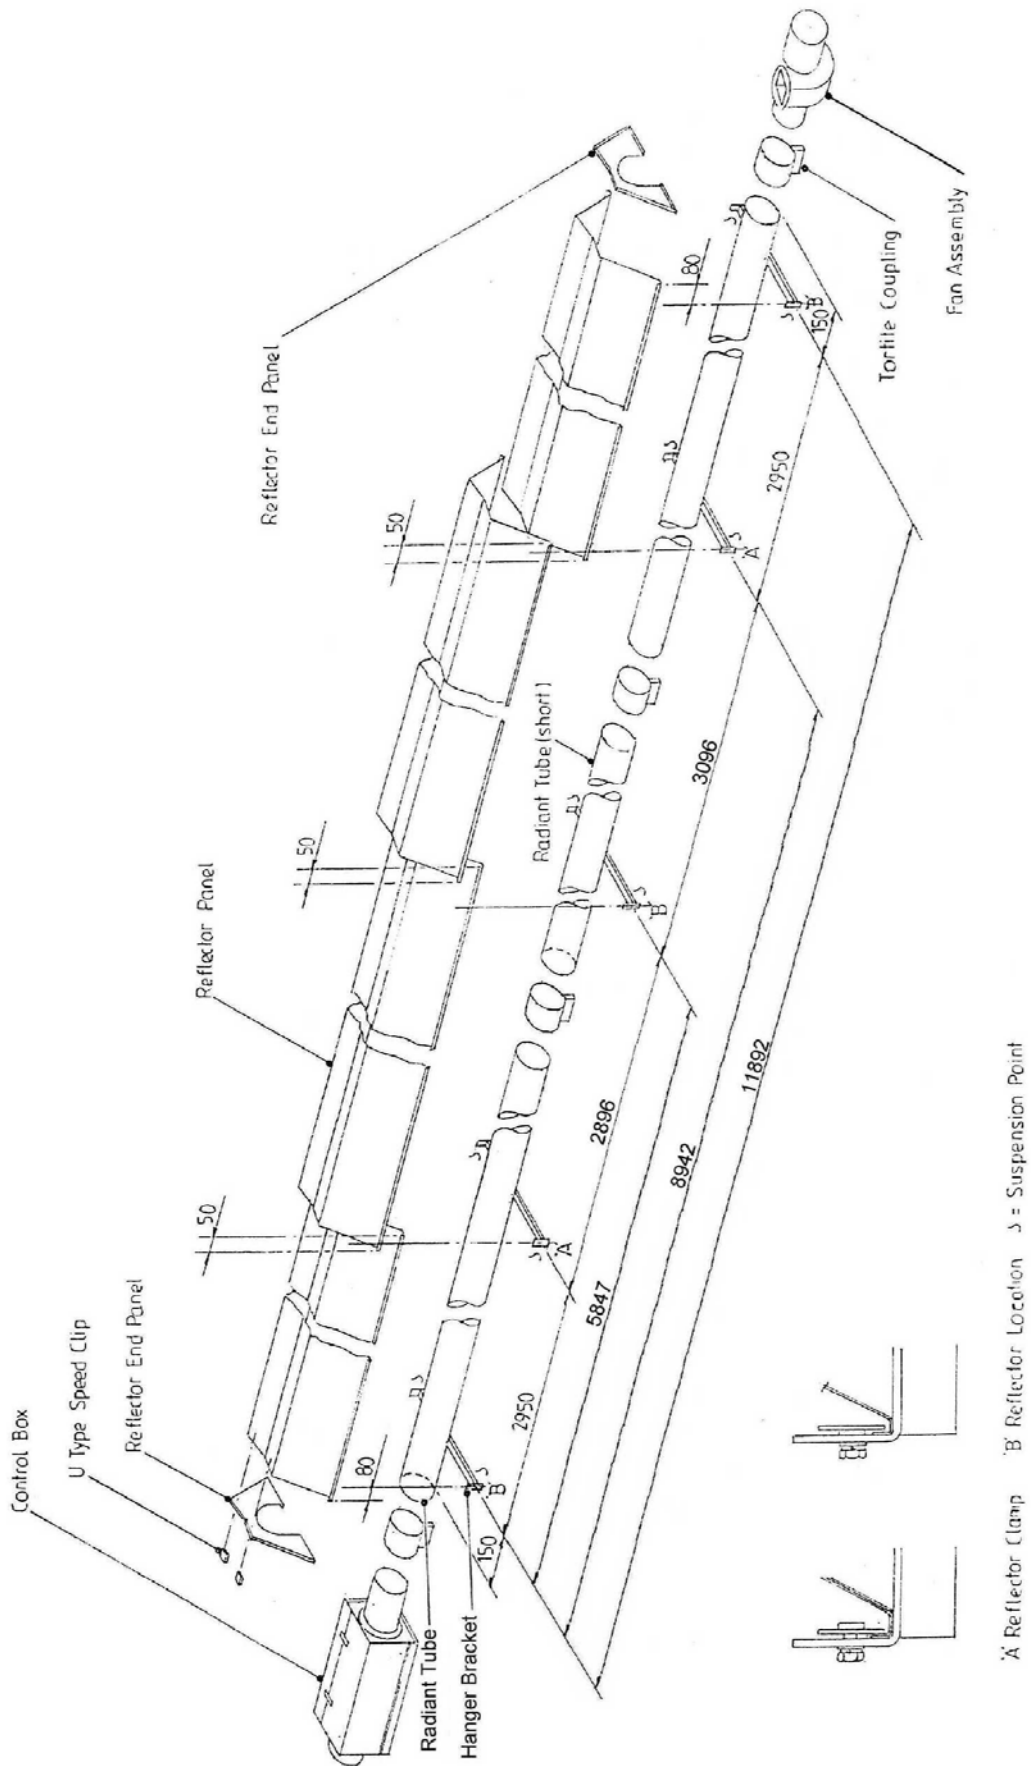
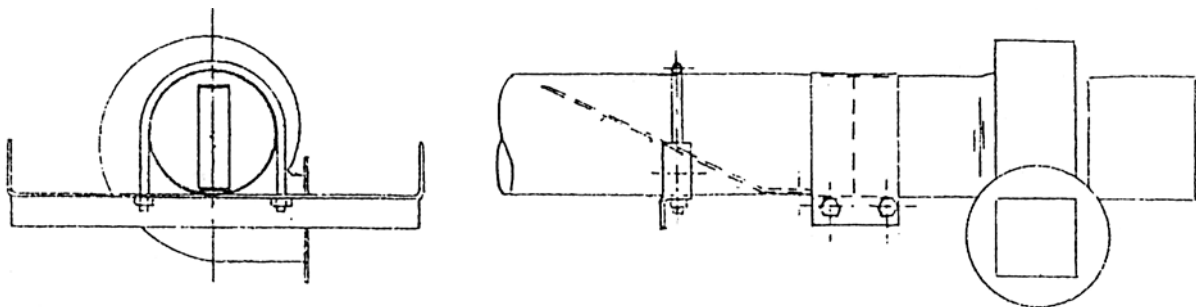

Fig. 24
Fig 25
- 4.8.2 Place the Radiant Tubes and Radiant Tube Assy (containing turbulator) on trestles providing 150mm minimum clearance above the floor, and assemble the five Hanger Brackets to the Radiant Tubes and Radiant Tube Assy using one 'U' bolt per bracket (from fastenings pack). Position the Hanger Brackets along the Radiant Tubes and Radiant Tube Assy as shown in Fig. 24. Ensure that the welded seams of the tubes are in contact with the Hanger Brackets. i.e. facing away from the reflector. Tighten the nuts sufficiently to retain the Hanger Brackets. Do not overtighten.
IMPORTANT: ensure that the turbulator is positioned adjacent to the Fan Assy and orientated as shown in Fig. 25. Failure to assemble the Radiant Tubes with their welded seams facing away from the reflector will void the manufacturers warranty.
- 4.8.3 Place one Torctite Coupling over the end of the long Radiant Tube (see Fig. 24) ensuring that it engages fully, up to the stop. Assemble the Control Box to the Radiant Tube ensuring that it engages fully into the Torctite Coupling (up to the stop) and is positioned vertically with the door latch uppermost (Fig. 10). Tighten the nuts of the Torctite Coupling to secure the Control Box to the Radiant Tube, taking care to support the control box in line with axis of the tube.
- 4.8.4 Place a second Torctite Coupling over the end of the Radiant Tube Assembly, where the turbulator is secured to the tube, (see Fig 24 and Fig 25) ensuring that it engages fully, up to the stop. Assemble the Fan Assembly to the Radiant Tube, ensuring that it engages fully into the Torctite Coupling (up to the stop) and is positioned with the fan outlet horizontal for flueless applications or either horizontal or vertical (facing upwards) for flued applications. Tighten the nuts of the Torctite Coupling to secure the Fan Assembly to the Radiant Tube, taking care to support the Fan Assembly in line with the axis of the tube.
- 4.8.5 The three sections of the appliance should now be raised and suspended from previously fixed chains or drop rods as detailed in Section 3.1, at suspension points indicated in Fig. 24. Rope or webbing slings should be used when lifting from above. If using a forklift to position the appliance sections, ensure that they are balanced on the forks prior to lifting.
- 4.8.6 Place a third Torctite Coupling over the open end of the Radiant Tube carrying the Control Box ensuring that it engages fully, up to the stop. Assemble the centre (short) Radiant Tube into the Torctite Coupling, ensuring that it engages fully (up to the stop) and with the Hanger Brackets aligned with those of the first Radiant Tube section (see Fig. 24). Tighten the nuts of the Torctite Coupling to secure the two sections of Radiant Tube to one another, taking care to maintain the tubes in a straight line.
- 4.8.7 Place the fourth Torctite Coupling over the open end of the Radiant Tube (and turbulator) Assembly carrying the Fan Assembly ensuring that it engages fully, up to the stop. Assemble the previously assembled section of Radiant Tubes into the Torctite Coupling ensuring that it engages fully (up to the stop) and with all the appliance Hanger Brackets correctly aligned with each other (see Fig. 24). Tighten the nuts of the Torctite Coupling to secure the two sections of Radiant Tube to one another, taking care to maintain the tubes in a straight line.
- 4.8.8 Place one Reflector Panel onto the two Hanger Brackets adjacent to the Control Box and a second Reflector Panel onto the two Hanger Brackets adjacent to the Fan Assembly. Position the Reflector Panels such that their outer edges overhang the Hanger Brackets by 50mm (see Fig. 24). Place the remaining two Reflector Panels over the two outer Reflector Panels, ensuring that the centre overlap is as shown in Fig. 24, thus providing a 50mm overlap at each joint. Clamp the first and second Reflector Panels, where they overlap, to the second Hanger Bracket (from Control Box end) using two retainers and M6 setscrews and washers (fastenings pack). Clamp also, the third and fourth Reflector Panels where they overlap, to the fourth Hanger Bracket (from Control Box end) end using two retainers and M6 setscrews and washers (fastenings pack). Secure the two Reflector Panels that overlap adjacent to the centre Hanger Bracket, to each other using two 'U' type speed clips (fastenings pack) as shown in Fig. 24. Screw the remaining (6) retainers to each of the other Hanger Brackets to provide location for the Reflector Panels.
- 4.8.9 Position one Reflector End Panel over the Radiant Tube and into one end of the Reflector Panels, with the End Panel flange flush with the end of the Reflector Panel. Secure the Reflector End Panel to the Reflector Panel by use of six 'U' type speed clips provided (fastenings pack); 2 clips per facet of Reflector Panel, as shown in Fig. 24.